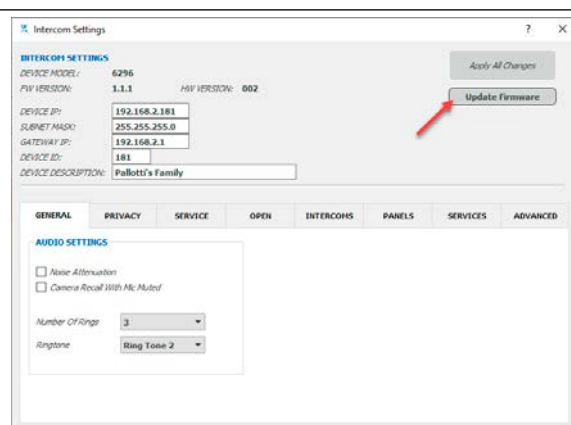

Fig. 40 Click on update firmware button
- Click the update firmware button (**Fig. 40**).